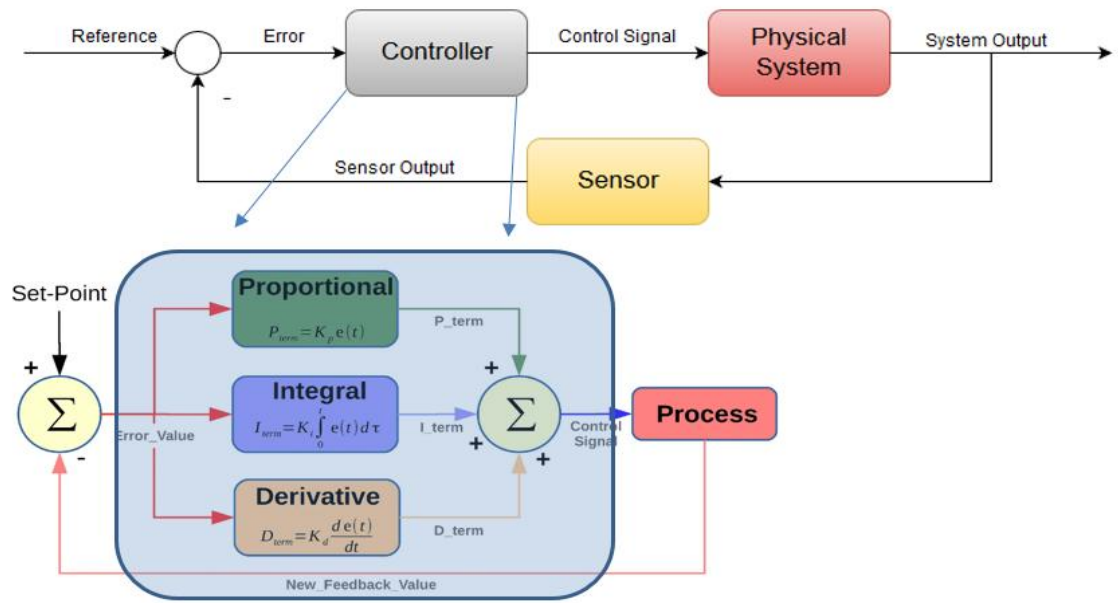

Figure 3: PID control block diagram
- **P or Proportional:** The Proportional is calculated by multiplying the P-Gain by the error. The purpose of the proportional, is to have a large immediate reaction on the output to bring the process value close to the set point as shown in figure 3. As the error becomes less, the influence of the proportional value on the output becomes less. The Proportional math looks like this:
- **I or Integral:** The Integral is calculated by multiplying the I-Gain, by the error, then multiplying this by the cycle time of the controller (how often the controller performs the PID calculation) and continuously accumulating this value as the “total integral”. The integral looks into the past of the system. Adding an integral command will correct the static error induced by a proportional command set alone as shown in Figure 3.
- **D or Derivative:** The derivative is calculated by multiplying the D-Gain by the ramp rate of the process value. The purpose of the derivative is to “predict” where the process value is going, and bias the output in the opposite direction of the proportional and integral, to hopefully prevent the controller from over-shooting the set point if the ramp rate is too fast as shown in Figure 3. Explained a bit simpler, if the process value is approaching the set point too fast, the derivative will limit the output to prevent the process value from.